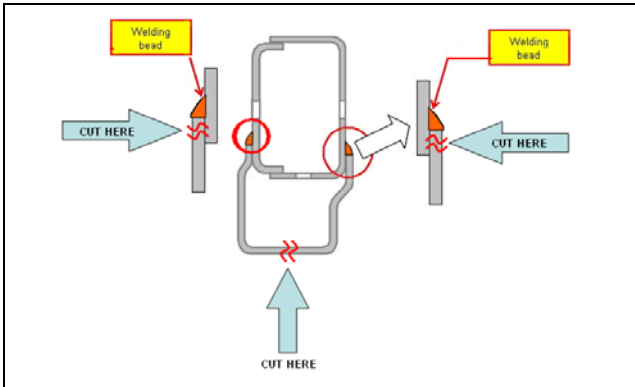

Figure 40
13. Remove the rear trailing link front mount. See Figure 40 for reference.